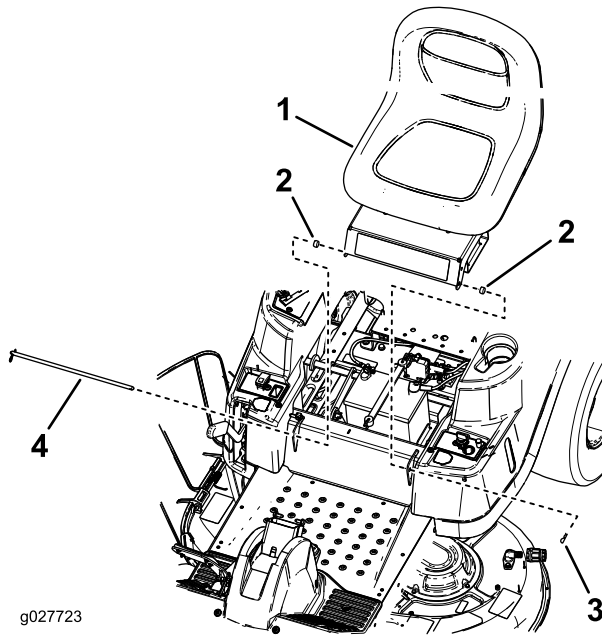

Figure 6
1. Install the seat assembly to the frame with the seat rod, 2 hairpin cotter pins, and 2 spacers (certain models only) (Figure 6).